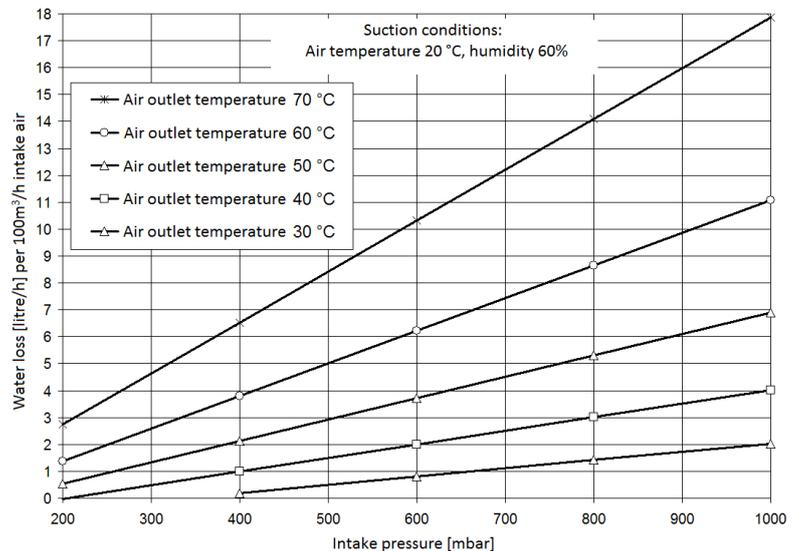

Fig. 7: Process water delivery
Fig. 7 shows the process water delivery from the reservoir for an intake volume flow of 100 m³/h as a function of intake pressure and process water temperature.
- Water loss for intake pressure and process water outlet temperature according to Fig. 7: 2.1 l/h per 100 m³/h intake air